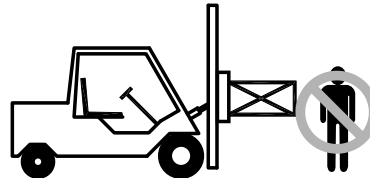

Figure 3-3,
- Never allow another person to approach an attachment that is being operated. (Figure 3-3)